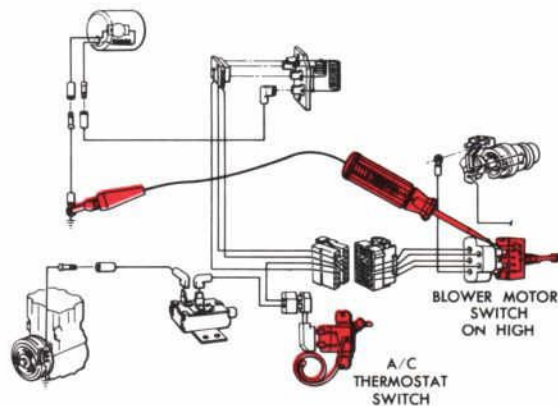

Figure 23—Testing Blower Switch to Thermostatic Switch Lead
5. The next test point is the blower switch output terminal which connects to the thermostatic switch (Fig. 23). If the light glows at this point, replace or repair the green lead or its connection.